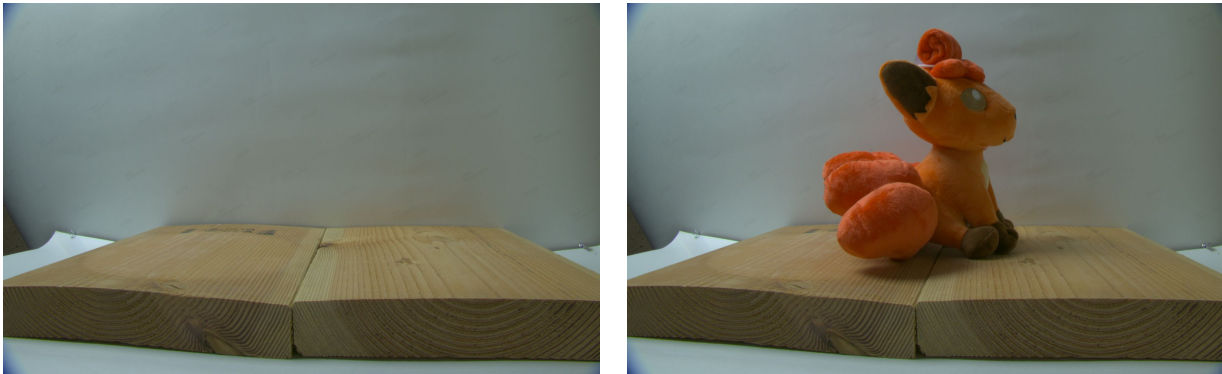

Fig. 3
1. For the color value in each pixel in the first image, subtract it from the color value of the corresponding pixel in the second image. See *Fig 3* for an example of two images that can be used.